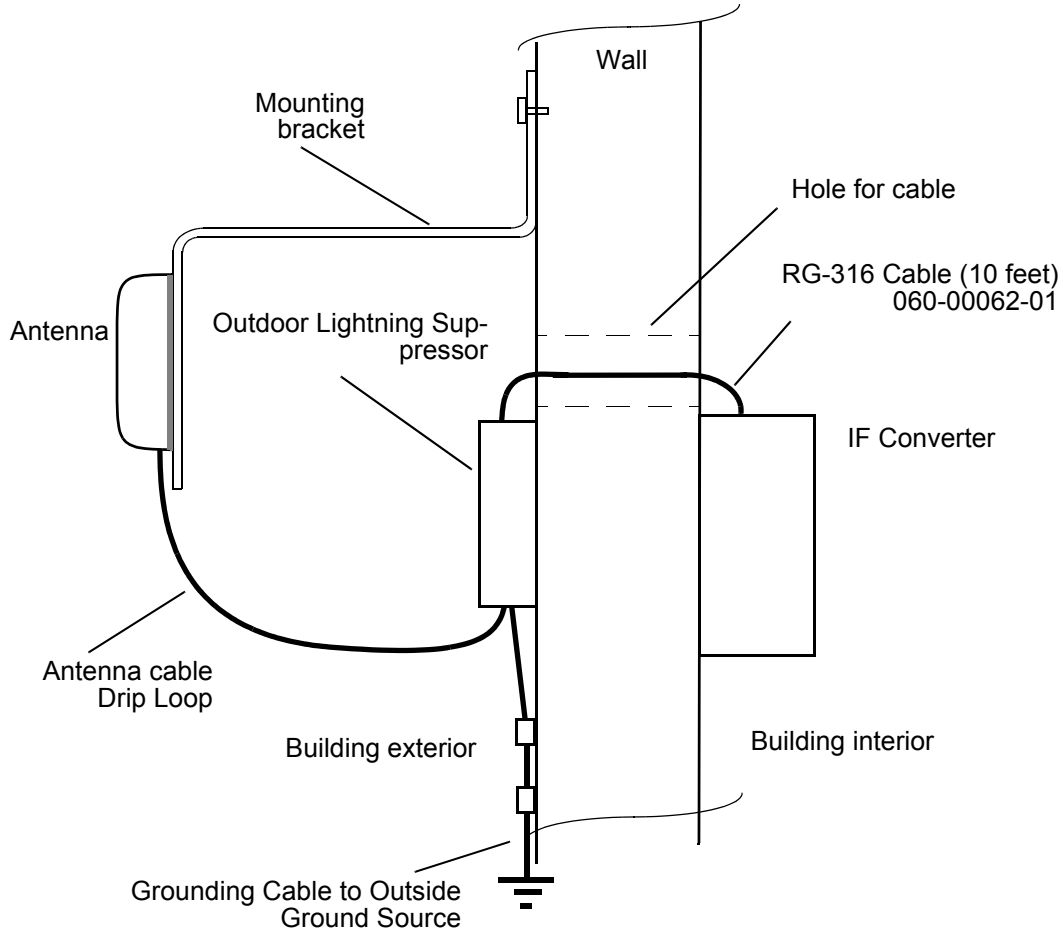

Figure 3-15. Wall Antenna Outdoor Lightning Suppressor Mounting
24. Mount the outdoor lightning suppressor mounting bracket to the outside wall shown in Figure 3-15.